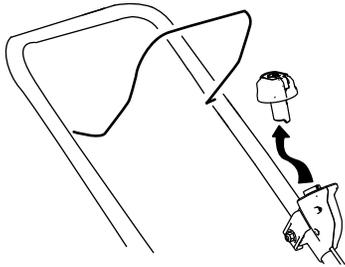

Figure 13
1. Remove the electric-start button (Figure 13).